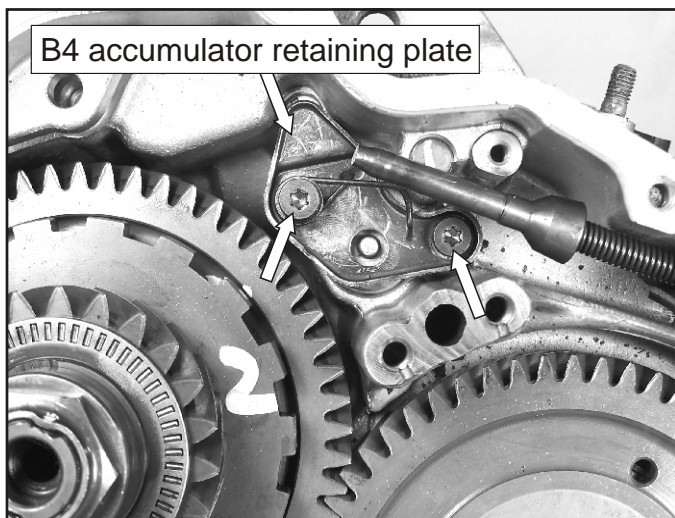
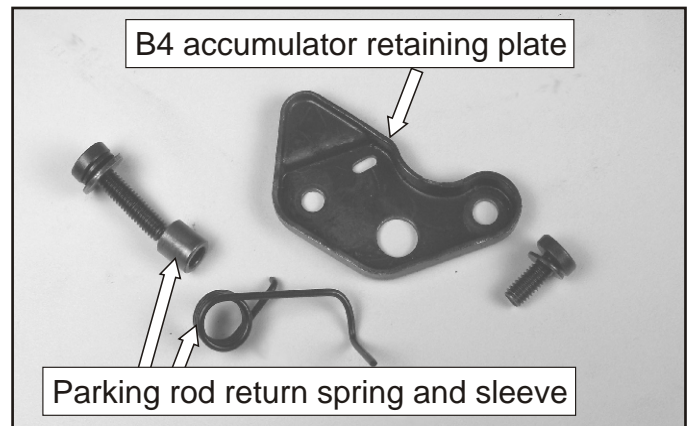

Figure 57
Figure 58
15. Remove the two B4 accumulator retaining plate bolts and plate, using a 30 torx bit, as shown in Figure 57. The bolt on the left anchors the sleeve and parking rod return spring, as shown in the close-up in Figure 58. *Note: The bolt on the left is 22mm long. The bolt on the right is 13.5mm long. CAUTION: B4 accumulator is spring loaded in your direction.*